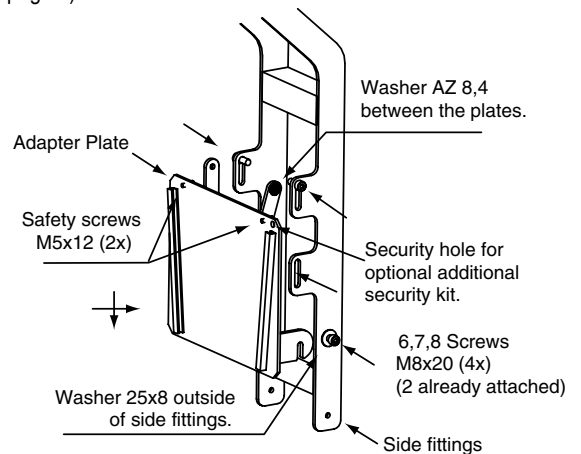
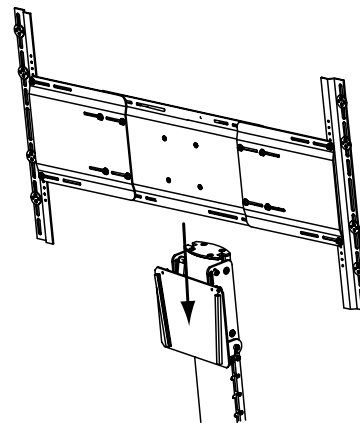

Figure 4
Figure 5
- ⑤ Attach universal plasma or plasma specific bracket to monitor using enclosed screws and washers (see separate instructions).
- ⑥ Hook adapter plate onto M8 x 20 screws on side fittings. Make sure washers are tight against the fittings. Fasten screws, making sure that washers are between the plates (see Fig. 4). Use holes appropriate to screen size (see Fig. 6, page 2).
- ⑦ PLEASE NOTE: This step requires two people. Hook monitor with bracket onto the adapter plate (see Fig. 5). Tilt monitor to desired position and re-tighten all screws. Lock the plasma bracket by turning the M5 x 12 screws toward the monitor. Cover the bolt heads with plastic covers (see Fig. 4).